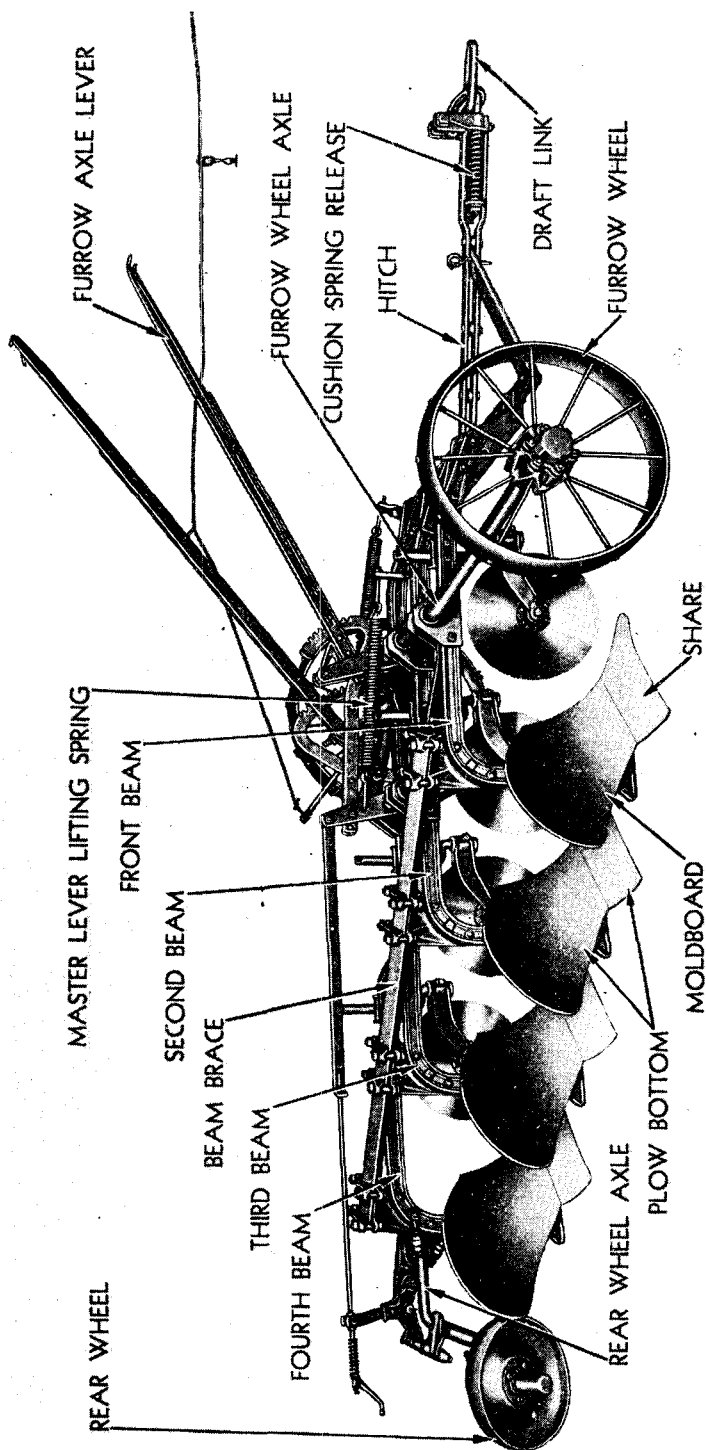

FIGURE 1—MOLDBOARD VIEW (RIGHT HAND) JOHN DEERE No. 7 TRACTOR PLOW
A. Identification.—This implement is illustrated in Figures 1 and 2 and shows left (landside) and right (moldboard) views. No serial number is assigned to this plow. It is referred to by model as "No. 7 Four-Bottom Tractor Plow".